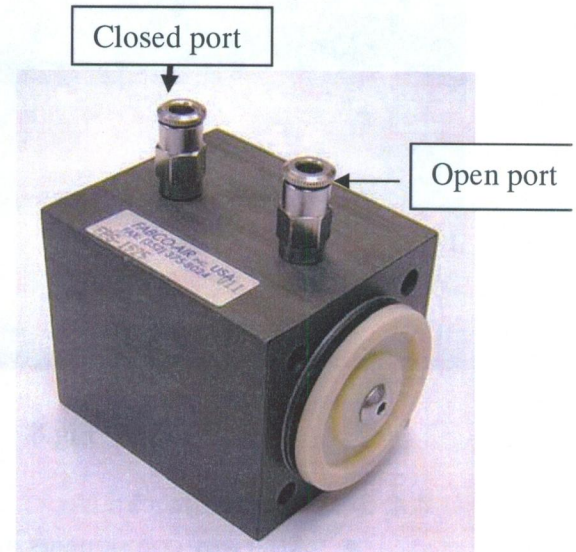

Fig 7b
- Fig 7b shows which port is open and closed.